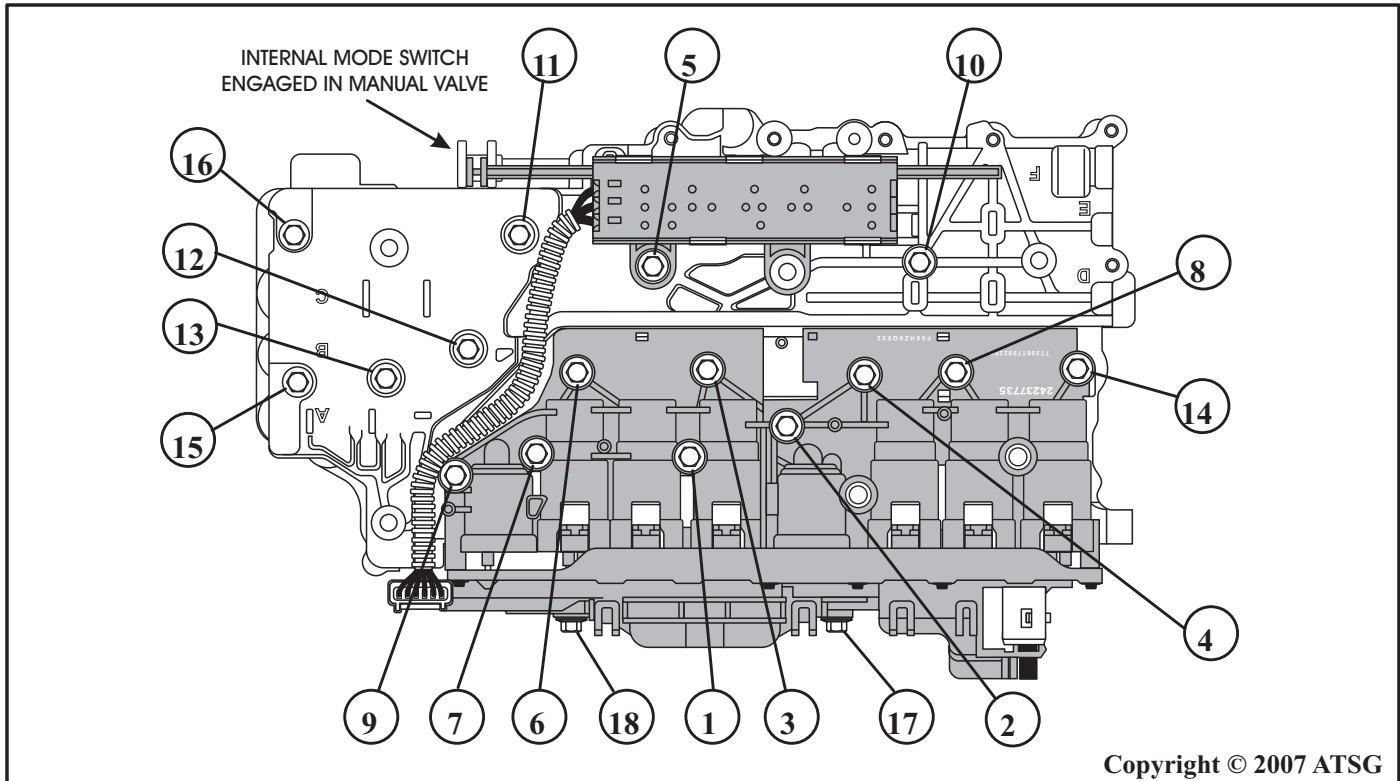

Figure 149
30. Now you can torque all 18 valve body bolts to 8 N·m (71 in.lb.), in the sequence shown in Figure 149.
31. The two 53mm bolts going in the side of the Solenoid Body/TCM (17 and 18) in Figure 149 **must** be tightened last.
33. There should be no visible gap. If a gap exists, loosen all 18 bolts and retighten in the required sequence, as shown in Figure 149.